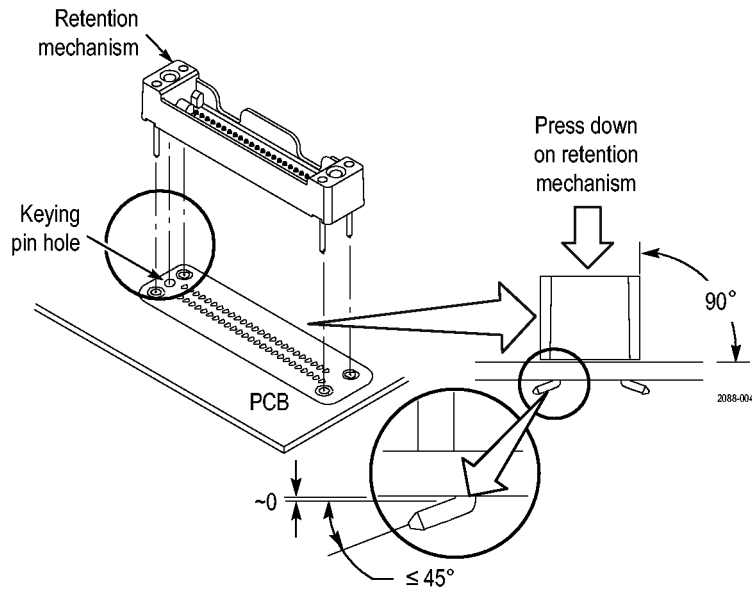

Figure 5: Installing the retention mechanism
2. Align the retention mechanism over the footprint so that the keying pin on the retention mechanism lines up with the keying pin hole on the footprint. (See Figure 5.)